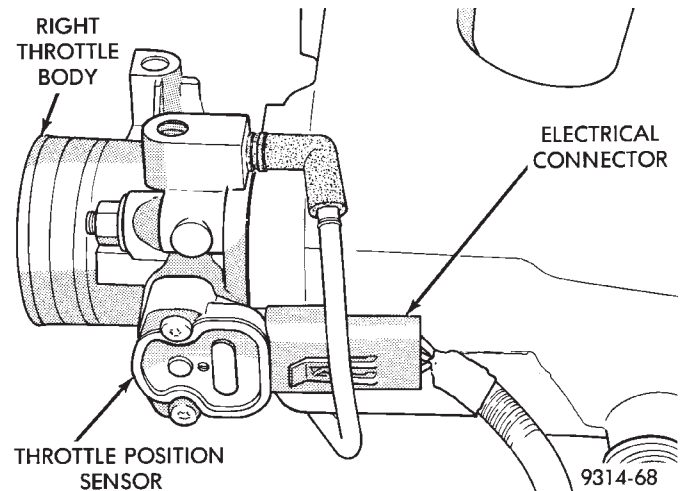

Fig. 69 Throttle Position Sensor—3.5L Engine
- (1) Disconnect the TPS electrical connector (Fig. 69).